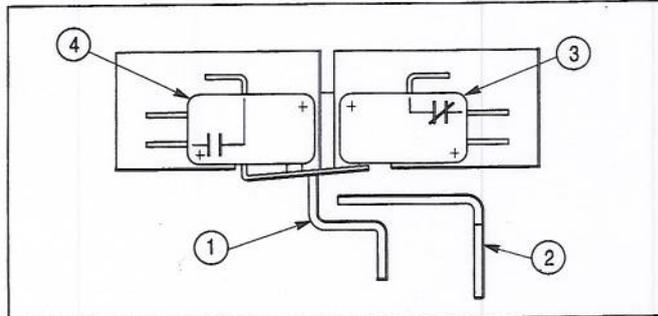

Figure 9a. Position 1. Springs discharged; motor in run position.
Position 1. Springs Discharged; Motor in Run Position. (Note that Figures 9a-9c are depicted as viewed from below)
In **Figure 9a**, note that spring position lever (1) is forward, actuating both switches. Motor/gear position lever (2) is retracted. Motor cutoff switch (3) is closed. Application of power at this time will cause the motor to start, thereby charging the closing springs.
The springs have reached charged position. The motor/gear lever (2) has been retracted by roll pins on the large gear as the cam follower (82, **Figure 2**) on the large spur gear has disengaged from the wind and close cam (34, **Figure 2**). The motor cutoff switch (3) has opened, stopping the motor and the closing coil switch (4) has closed. Upon application of power to the closing circuit, the breaker will close. Switches then return to position 1 (**Figure 9a**).